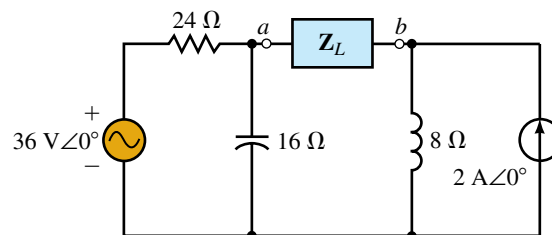

FIGURE 20–83
41. Refer to the circuit of Figure 20–83.